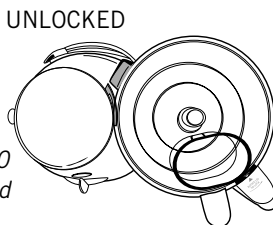

Fig 4
4. Place the processor cover onto the processing bowl, by positioning the 'align' label on the cover with the top of the handle which is marked 'rotate lid to lock', see Figure 4.
5. Fit the processing cover to the processing bowl, see Figures 4 & 5 and place the food pusher in the feed tube.
4. Fit the processing cover to the processing bowl, see Figures 4 & 5 and place the food pusher in the feed tube.
4. Fit the processing cover to the processing bowl in Figures 4 & 5 and place the food pusher in the feed tube.